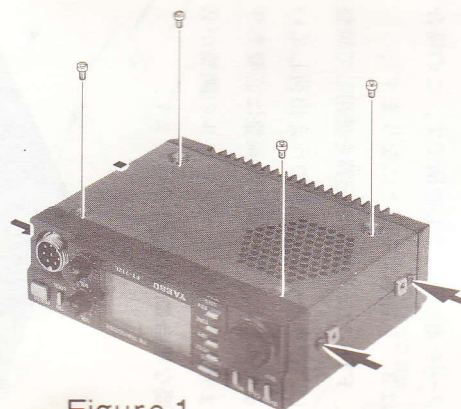

Figure 1
- (1) Disconnect the power cable at the rear of the transceiver, place the transceiver upside-down on the workbench, and remove the four screws on the bottom cover. Loosen the two screws on each side, and then remove the bottom cover (Fig. 1).